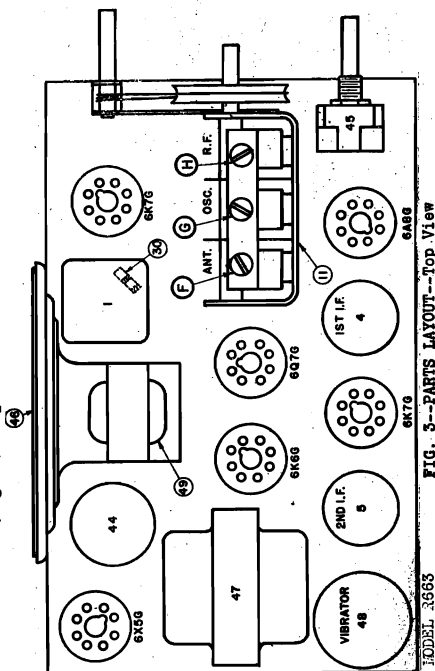

FIG. 3--PARTS LAYOUT--Top View
- Set Signal Generator to exactly 1530 kilocycles and adjust oscillator trimmer "G" (Fig. 3) on middle section of condenser gang carefully for maximum output.